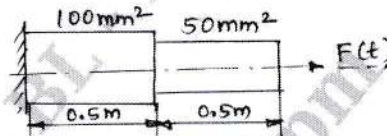

Fig.Q.8
- 8 For the stepped bars shown in Fig.Q.8. Determine the eigen values and eigen vectors.